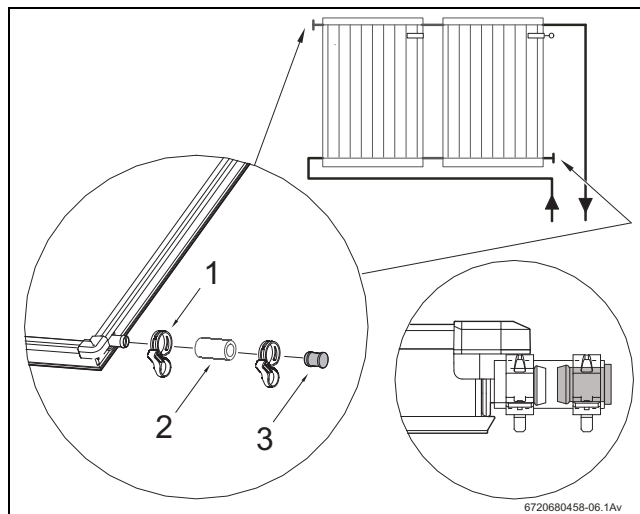

Fig. 35 Assemble the dummy plug and the hose clip
- ▶ Place the 55 mm solar hoses (Fig. 35, [2]) with the pre-assembled dummy plug over the two free connections of the collector array